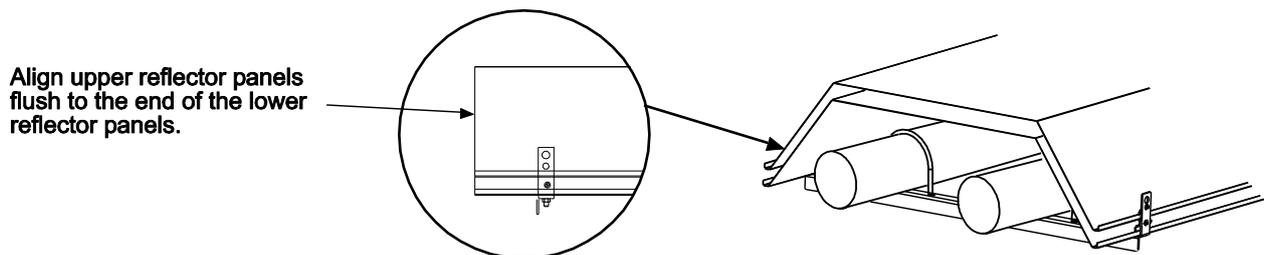

Fig. 21m
12. Place the **upper reflector panels** over each of the reflector spacer brackets. Repeat the same reflector positions and overlap dimensions as specified in table 14, see step 9 above. To align reflectors precisely to the ends of the lower reflector, hold the end cap in place against the lower reflector slide the upper reflector to rest against it. See figure 21m below.